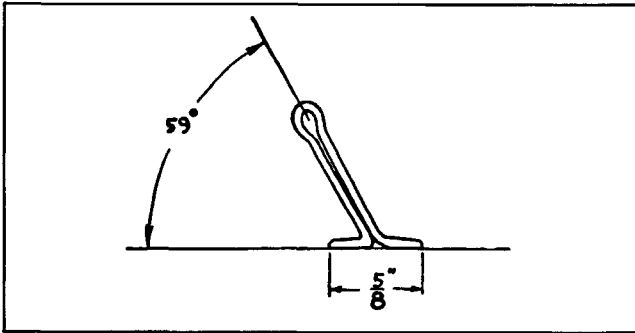

Fig. 6-30 Tool for Removing Upper Half of Main Bearing
4. Make a tool for removing upper half of bearing shell as shown in Fig. 6-30.